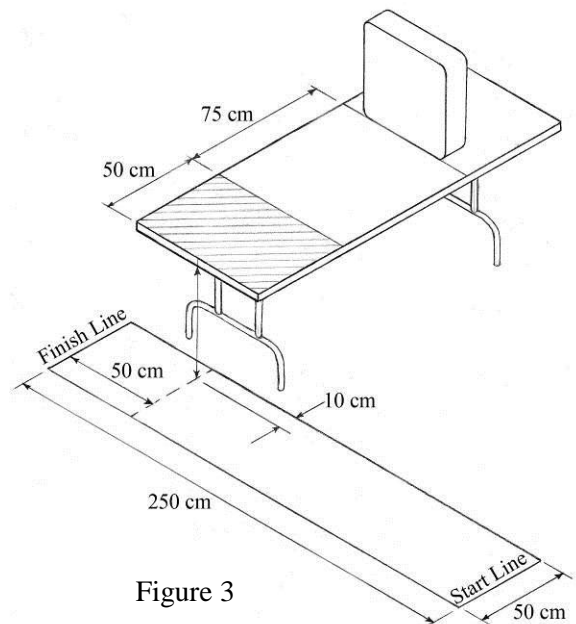

Figure 3
7. Wind-to-Vehicle (Figure 3)
- c. Teams will design their device to move the vehicle from behind the Start Line” to the “Finish Line” as shown in Figure 3.